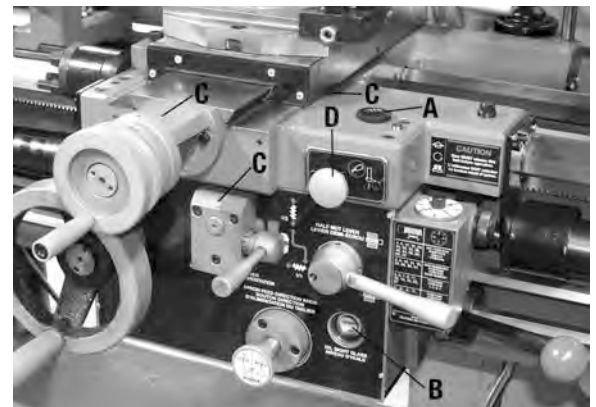

FIGURE 32
The carriage oil level should be checked regularly. Change carriage oil after the first 3 months and once every year after. The carriage oil drain plug is found under the carriage, drain oil. Reinstall drain plug. The carriage is filled with 1.2 Litres of SAE-30 motor oil through the filling plug (A) Fig.32 on the top of the carriage. Fill oil until it reaches the 3/4 mark on the oil level indicator (B). Lubricate the ball oilers (C) with regular machine oil, most are shown in Fig.32.
To lubricate the carriage and the cross slide way guides, pull the pump knob (D) Fig.32 out and hold it for a few seconds, the pump will draw oil from the carriage reservoir, then push pump knob in to pump oil through drilled passages in the way guides. Repeat until properly lubricated.